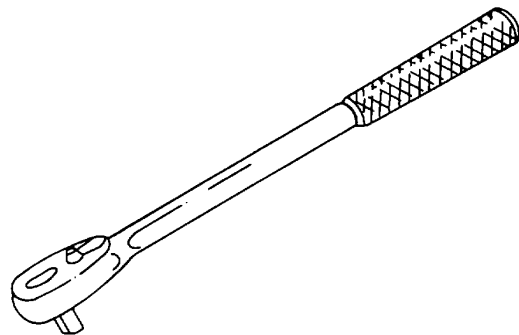

Figure 4-27. Ratchet Handle
1. *Ratchet handle.* Ratchet handles may have either a straight head or a flex head. The flex head is used to go around objects. Both types have a selection lever on the top of the head to determine the direction of drive. A straight head type is shown in figure 4-27.